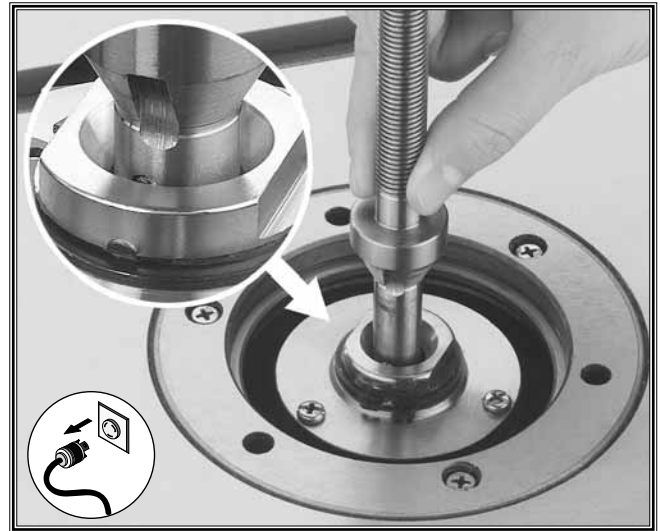

Figure 19. Spindle and guide pin alignment.
3. Insert the spindle/drawbar assembly into the spindle cartridge from the top side of the table. See **Figure 19**
4. Observe and make sure the spindle keyway on the spindle lines up with the guide pin on the spindle cartridge as shown in **Figure 19**.